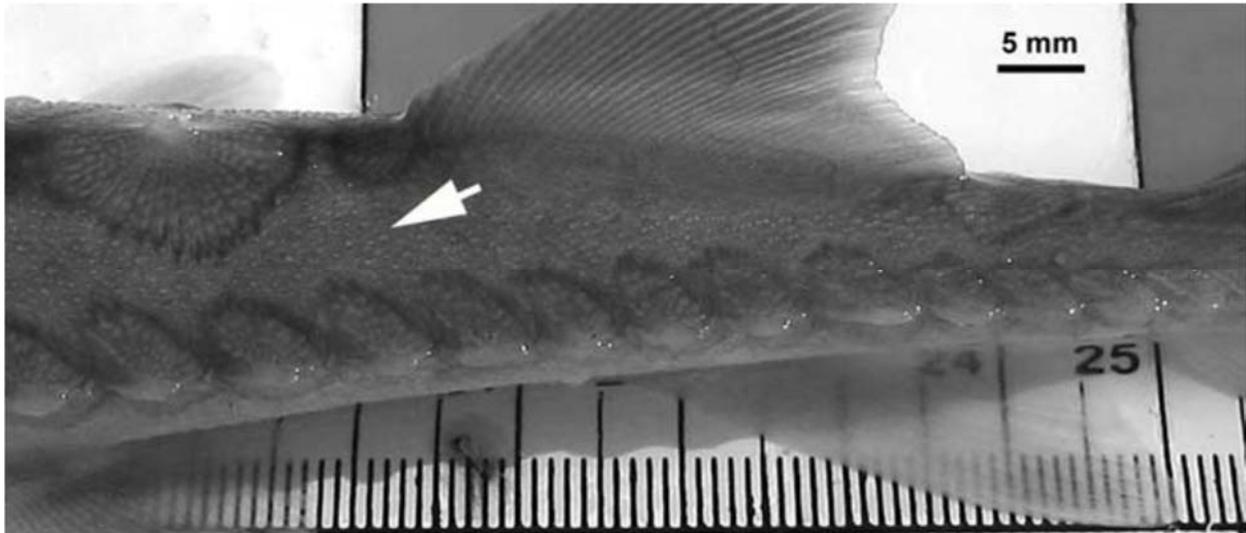

Figure X.1. Standardized Location for PIT Tagging all Gulf, Atlantic, and shortnose sturgeon (Photo Credit: J. Henne, USFWS)
10. PIT tags should be implanted to the left of the spine immediately anterior to the dorsal fin, and posterior to the dorsal scutes (Figure X.1). This positioning optimizes the PIT tag's readability over the animal's lifetime. If necessary, to ensure tag retention and prevent harm or mortality to small juvenile sturgeon of all species, the PIT tag can also be inserted at the widest dorsal position just to the left of the 4th dorsal scute.